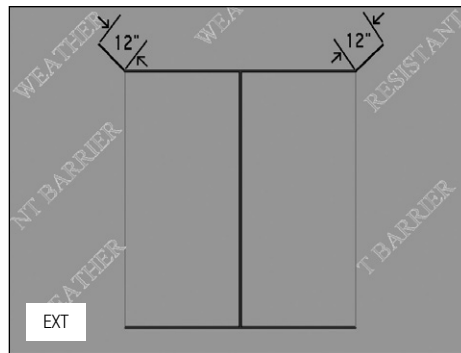

FIG. 5
- E) Cut the weather-resistant barrier (WRB) in a "Modified I" pattern. (Fig. 5)
- G) From the exterior, cut the top of the WRB to form a flap. (Fig. 5)